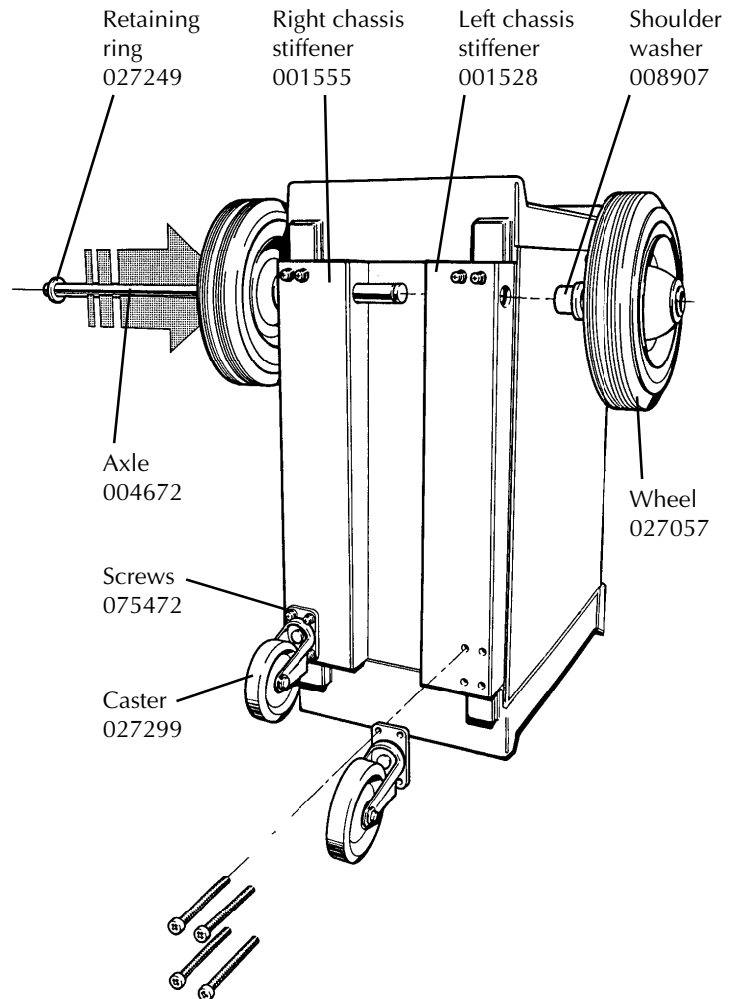

Figure 2 Power Supply on Front Handles
5. Align the right chassis stiffener (001555) to the bottom of the power supply - see Fig. 2 for outside view. Be certain that the holes in the chassis stiffener are offset to the far left side with two holes on the top and four holes on the bottom.
- Attach one of the casters (027299) to the right chassis stiffener as shown in Fig. 2. Insert 4 screws (075472) through the bottom 4 holes of the chassis stiffener from the outside of the power supply as in the previous steps.